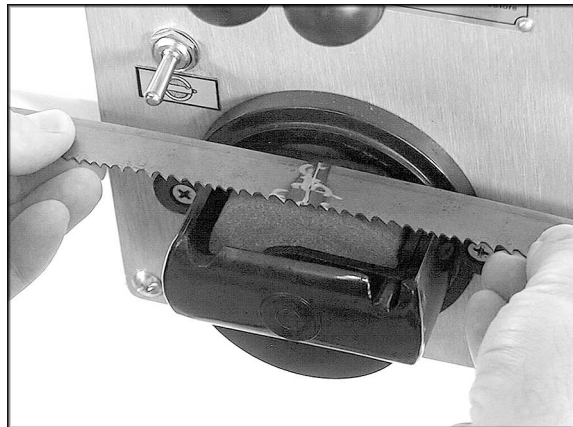
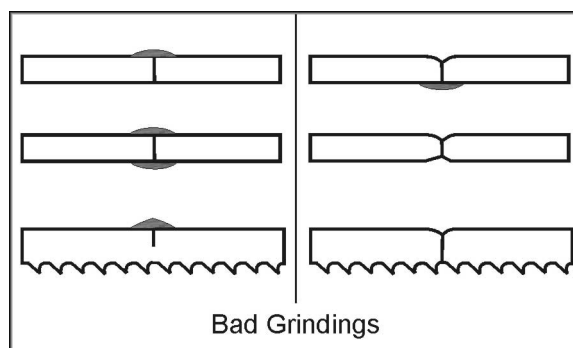

Figure 22
Figure 23
19. Check to make sure the welded section is the same thickness as the rest of the blade. If not, grind off excess weld material using the grinder (Figure 22). Figure 23 illustrates some unacceptable grindings.